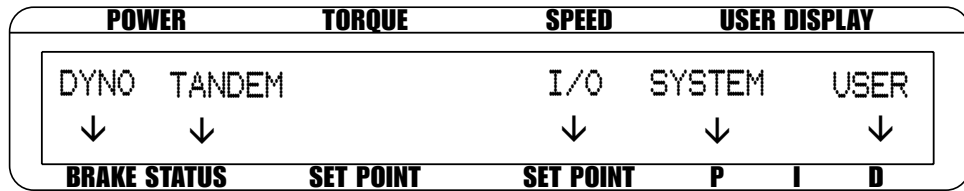

Figure 3-22 Tandem Setup Menu
6. Press POWER UNITS to select tandem. See *Figure 3-22 Tandem Configuration Menu*.
14. Select TANDEM. The display will appear as shown in *Figure 3-22 Tandem Configuration Menu*.